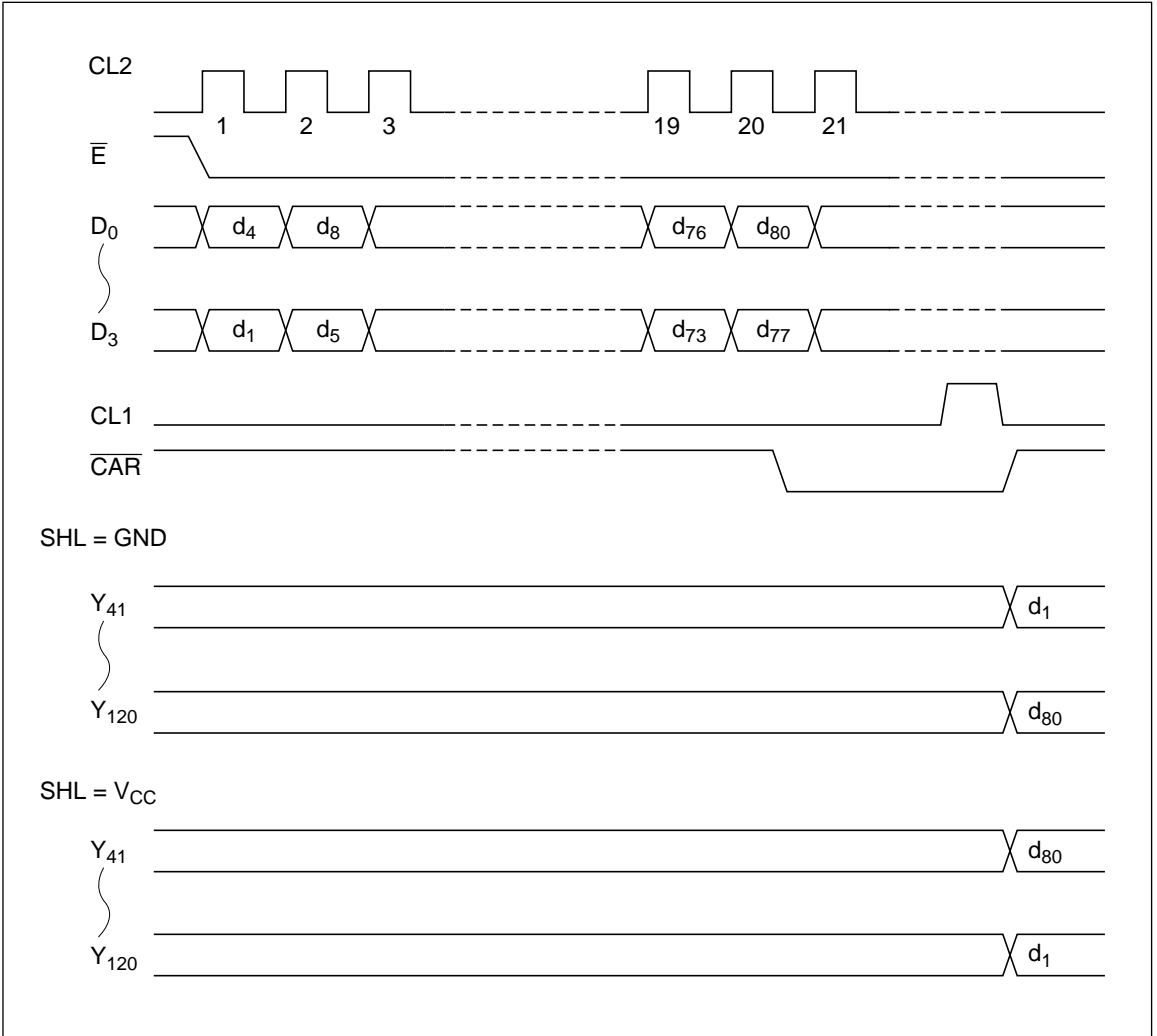

Figure 7 Column Driver Timing Chart (4)
When CH2 = V_{CC} and BS = GND, 4-bit parallel data is latched, while 80-bit data is output. The output of latched data is performed as described in “Column Driving (3).” See figure 7.